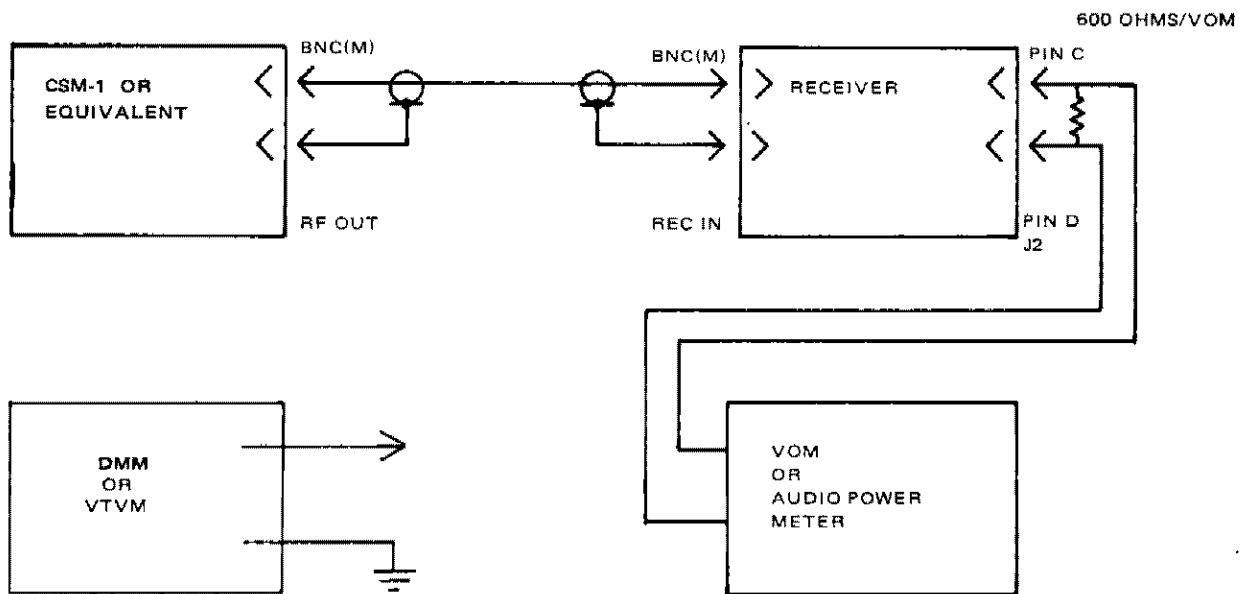

Figure 9-7. Test Setup for Receiver Tuning
(10) Set the voltmeter to the 10 V d.c. scale and connect between GROUND and AGC test point.
(11) Remove the connector on the front panel between ANTENNA and RECEIVER INPUT. Connect test equipment as shown in figure 9-7.
- (6) On the mixer/multiplier module, adjust the LEVEL ADJ control fully clockwise.
- (7) Set voltmeter to the 3 V d.c. scale and connect between GROUND and MULT test point.
- (8) Alternately adjust and readjust the DOUBLER and BUF controls for maximum voltmeter indication.
- (9) Carefully adjust LEVEL ADJ control counterclockwise until the voltage indicated in table 9-6 is obtained for the desired frequency.
- (10) Set the voltmeter to the 10 V d.c. scale and connect between GROUND and AGC test point.
- (11) Remove the connector on the front panel between ANTENNA and RECEIVER INPUT. Connect test equipment as shown in figure 9-7.